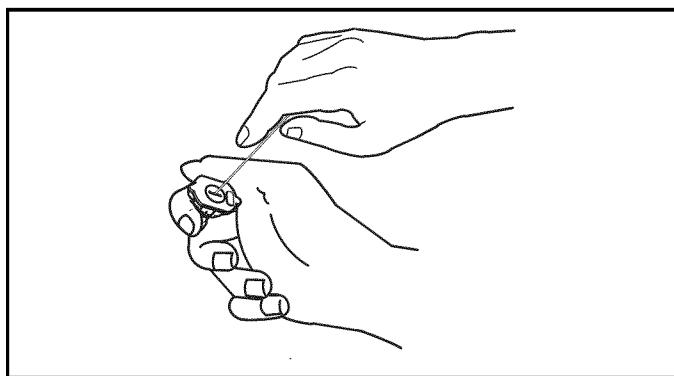

Figure 6-3. Free Foreign Material
- 4. Use a small paper clip to free any foreign material clogging or restricting nozzle (Figure 6-3).